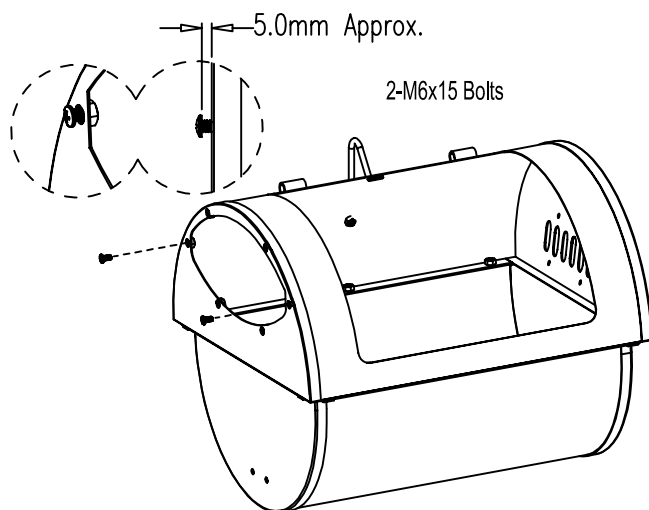

fig. 11
- Turn the firebox unit over so that it is sitting as per fig. 11 below. Screw 2-M6x15mm bolts into the holes at the side of the elliptical cut out leaving a space of 5mm between the head of the bolt and the side of the firebox unit.